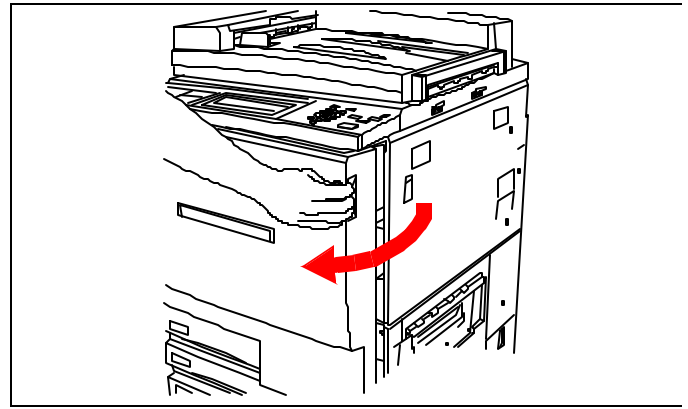
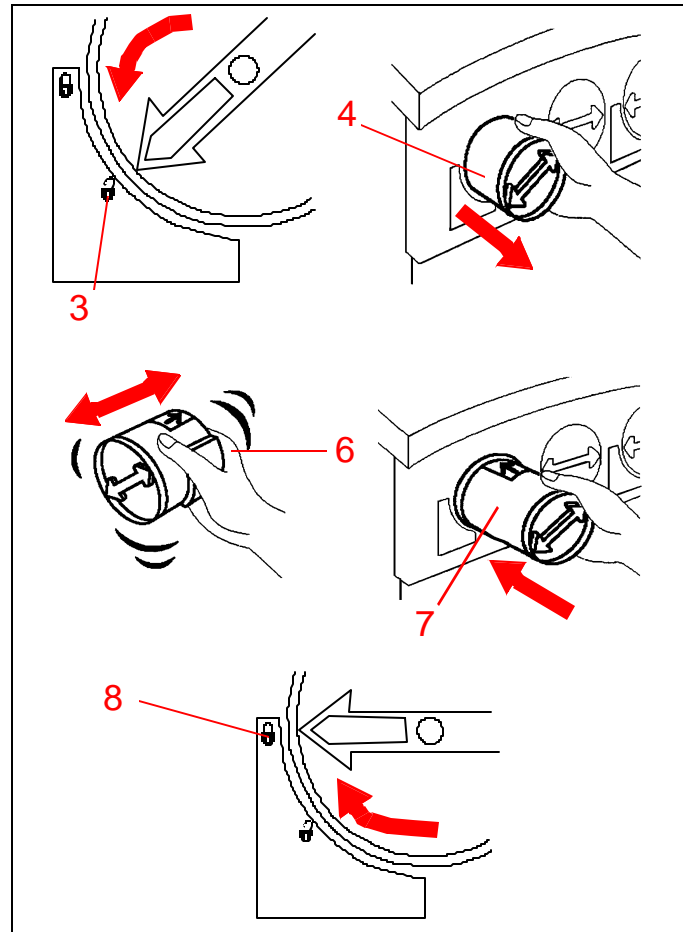

Figure 18
Figure 23
See Figure 18.
1. See Figure 23. Open the front door of the DocuColor 12 Printer. (See Figure 18 on page 11.)